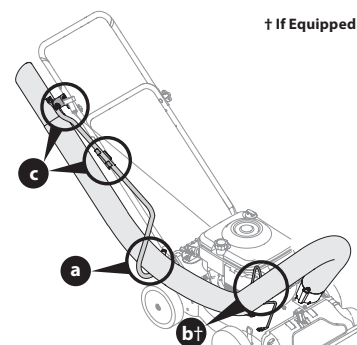

Figure 5
4. Lay hose tubing in curved end of hose handle next to chipper chute and into hose cradle (if applicable). See a and b in Figure 5.
5. Snap the hose handle first into the upper hose handle bracket and then into the lower hose handle bracket. See c in Figure 5.